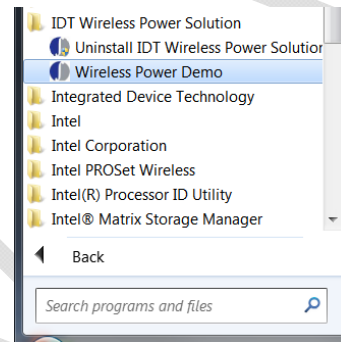

Figure 9. Starting the Graphical User Interface
6. Click Start >> All Programs >> Integrated Device Technology (Folder) >> Wireless Power Demo (Application Icon) to open the GUI software (Fig 9).